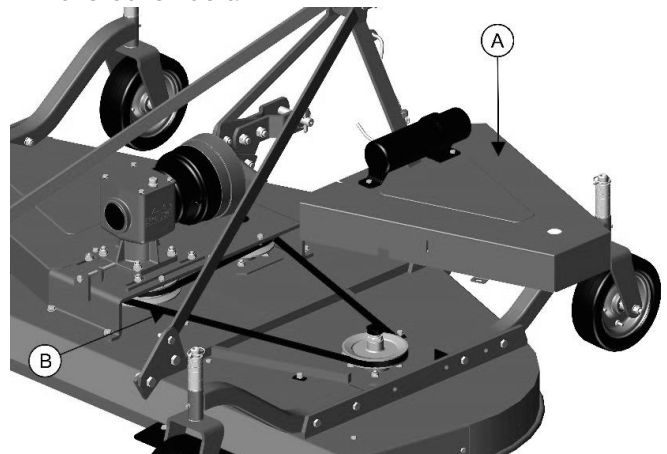

Figure 17
1. Remove the belt cover [Figure 17, Item A].